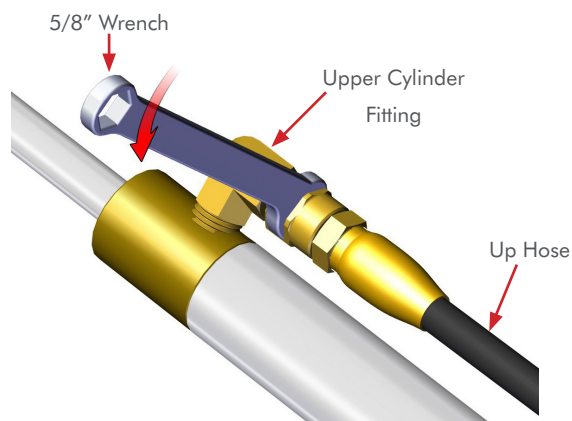

Figure 1
**STEP 1** Loosen the defective **UP Hose** from the **Upper Cylinder Fitting** using a **5/8" Wrench**. **FIG 1**